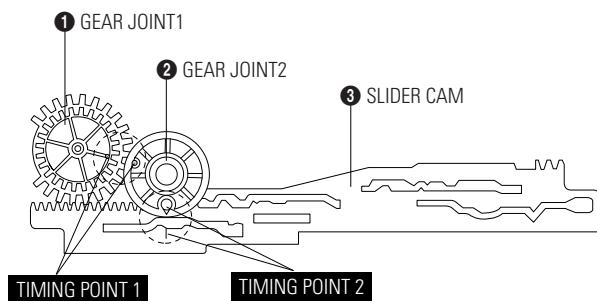

Fig. 3-12 Gear Joint 1,2 Assembly
- 1) Be sure to align dot mark of Gear Joint 1 ① with dot mark of Gear Joint 2 ② as shown Fig 3-12.